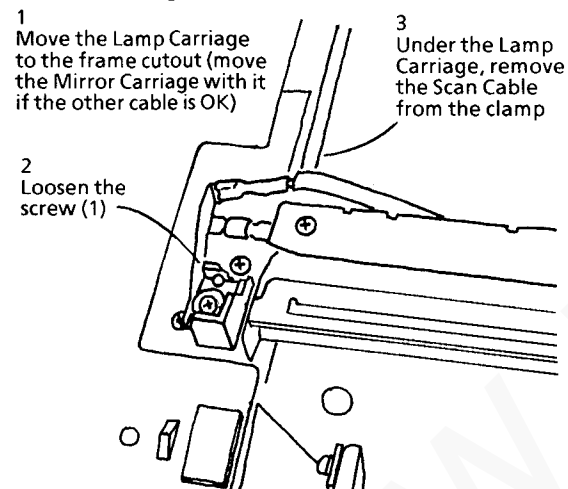

Figure 1. Disengaging the Rear Scan Cable from the Lamp Carriage
7. Disengage the broken Scan Cable from the Lamp Carriage (rear end of Lamp Carriage shown in the figure, the front end is the same) (Figure 1).